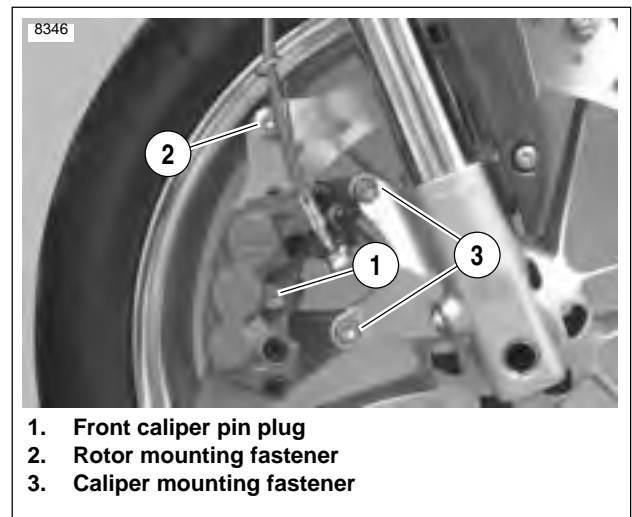

Figure 1-13. Front Brake Caliper
1. See Figure 1-13. Loosen pin (1) but do not remove.
2. Rotate wheels so that caliper is centered between rotor mounting fasteners (2).
3. Remove lower caliper mounting fastener (3) that secures caliper to fork lower.
4. Loosen but do not remove upper caliper mounting fastener (2) that secures caliper to fork lower.
5. Remove pin (1).
4. See Figure 1-13. Install pin (1) making sure it engages hole on both pads and spring clip.
6. See Figure 1-13. Install lower caliper mounting fastener (2).
7. Tighten both caliper mounting fasteners (2) to 35-37 ft-lbs (48-50 Nm).
8. Tighten pin (1) to 11-15 ft-lbs (15-20 Nm).